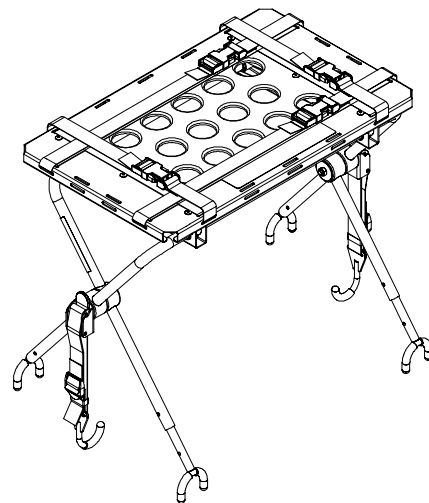

Figure 37 – Open defibrillator platform legs
2. Open and expand the defibrillator platform legs (Figure 37).